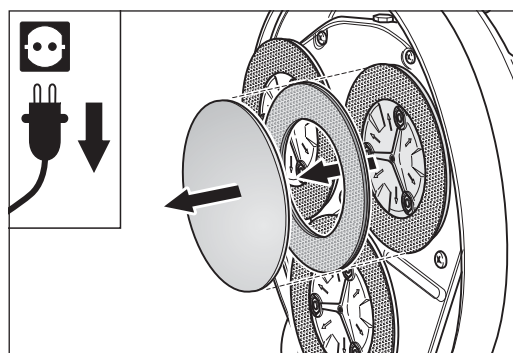
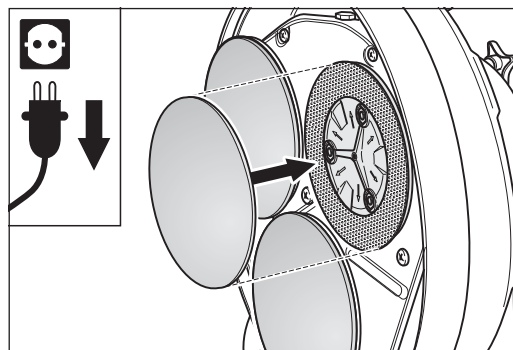
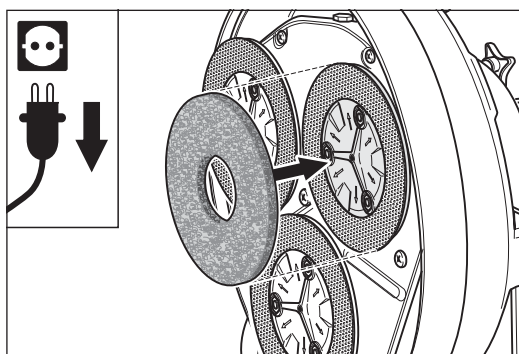

Fig. 32 Remove the sanding discs and the flexible Velcro rings.
Fig. 33 Place the sanding discs directly on the sanding plates.
Fig. 34 Place the normal pads directly on the sanding plates.
- 5 Now place the new sanding disc in the center of the flexible Velcro ring and press it in place. For increased sanding depth, place the sanding discs directly on the sanding plates (fig. 32, fig. 33).
- 4 Remove the three sanding discs and flexible Velcro rings (fig. 32) and replace them by normal pads (fig. 34).
- 4 Remove the three sanding discs and flexible Velcro rings (fig. 32) and replace them by pads.